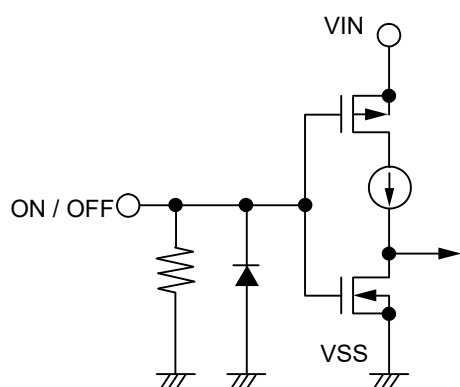
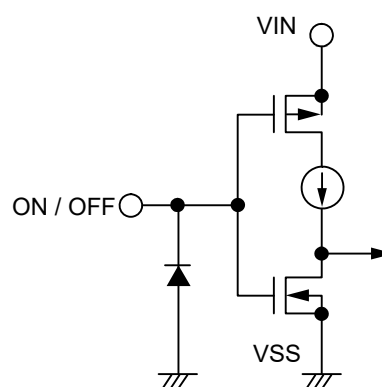

Figure 11 S-19246xxxH Series E / G type
Figure 12 S-19246xxxH Series F / H type
The ON / OFF pin is configured as shown in **Figure 11** and **Figure 12**.
*2. Note that the IC's current consumption increases as much as current flows into the pull-down resistor when the ON / OFF pin is connected to the VIN pin and the S-19246xxxH Series E / G type is operating (refer to **Figure 11**).